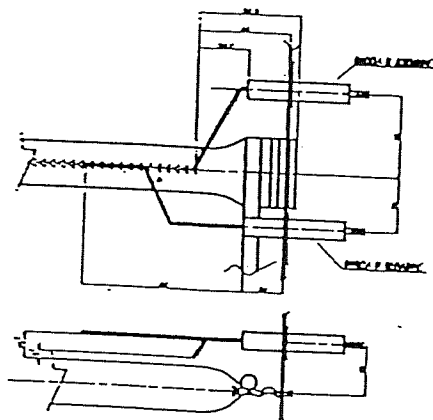

Fig. 4
- **BOUGIE D'ALLUMAGE ET DE DETECTION (fig.4)**